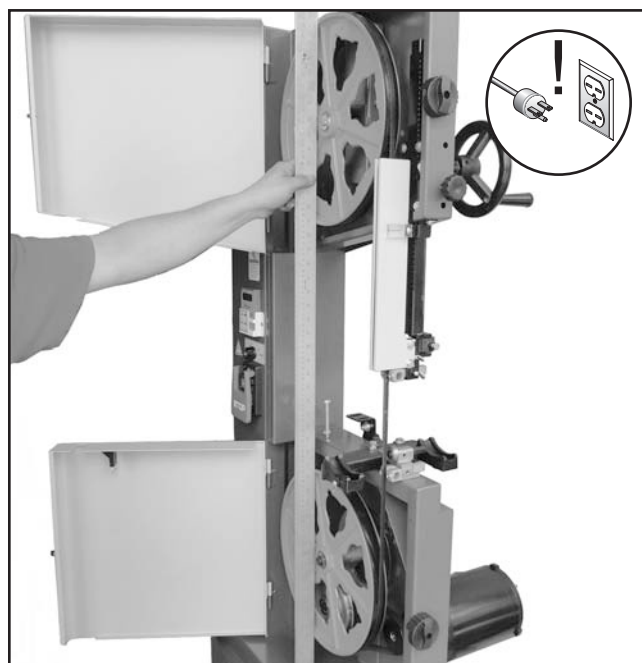

Figure 49. Checking wheel alignment with a straightedge.
2. With the blade on and properly tensioned, hold a straightedge close to the center of both wheels. Make sure the straightedge fully extends across the wheels as shown in **Figure 49**.